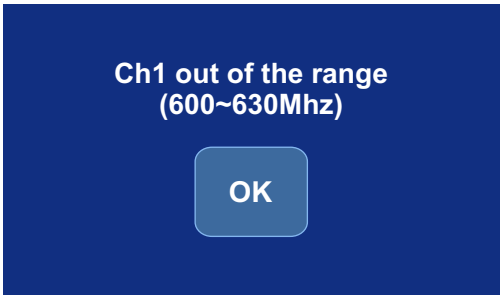

Figure 4.45
- If the entered frequency is less or more than the allowed frequency band i.e. 600 MHz to 630 MHz, it displays a prompt reading **“CHX out of the range (600 ~ 630MHz)”** along with an “OK” button. X refers to the channel number ranging from 1 – 4. (See Figure 4.45).